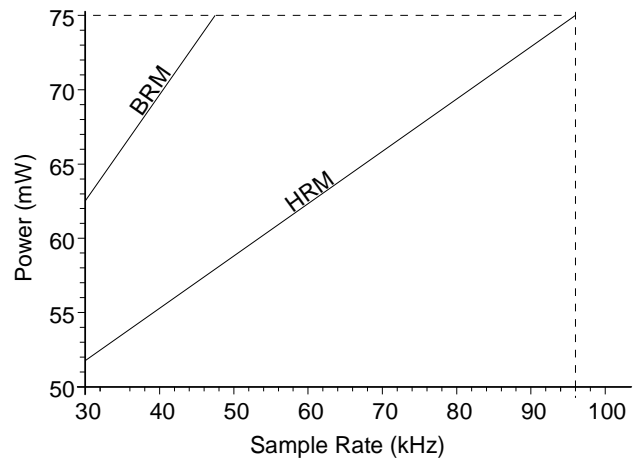

Figure 4. Power vs. Sample Rate
- Refer to Figure 4. Max Power Dissipation is measured at $V_A=5.5V$.